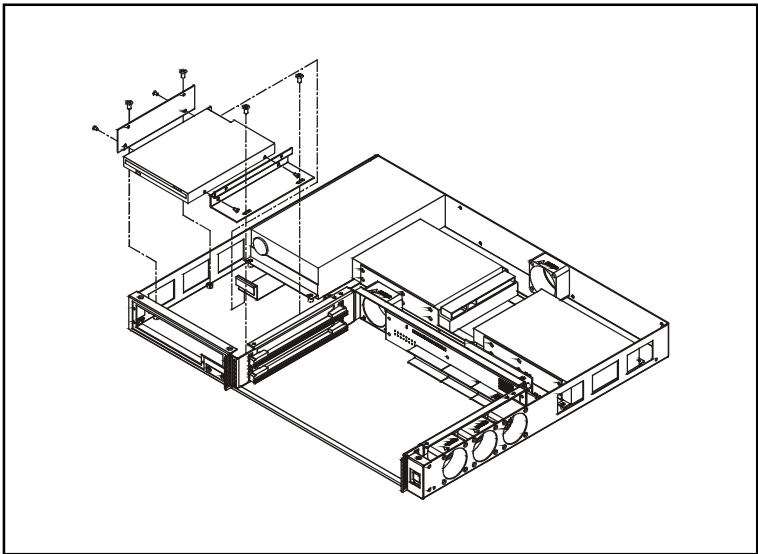

Figure 2-5: Installing a slim-type floppy disk drive
3. Fasten the mounting brackets with the floppy disk drive on the MIC-3035. (Please refer to Figure 2-5)